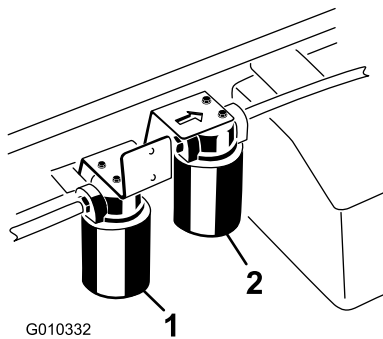

Figure 73
3. Place a drain pan under the filter and remove the filter (Figure 73).
1. Clean the area around the high-flow-filter mounting area (Figure 73).